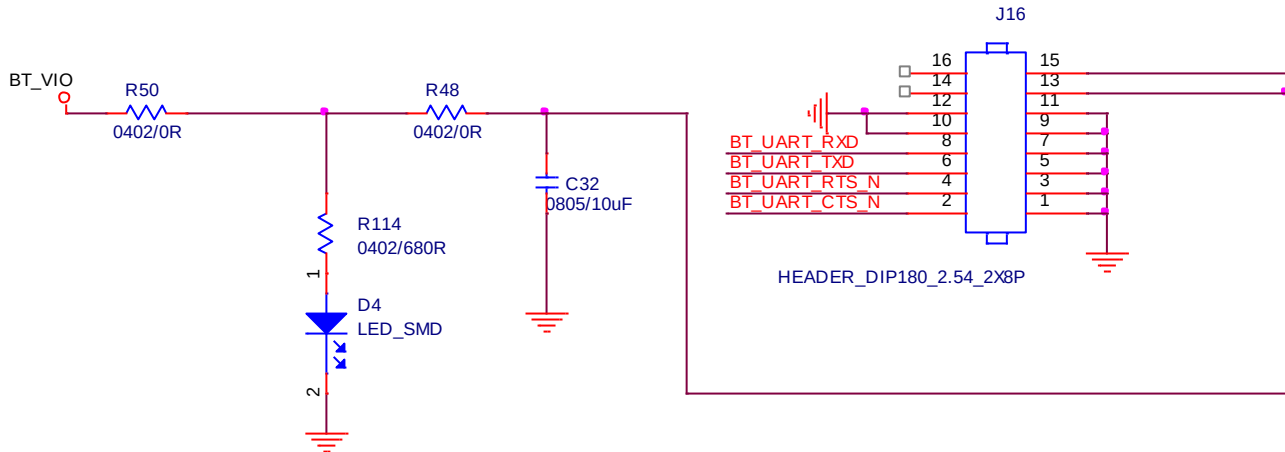

Figure4. Bluetooth verification connection interface to Host UART
- ❖ Refer to Figure4 UART pin definition connects the J16 interface of AP6276P/PR3 evaluation board to Host UART control interface.